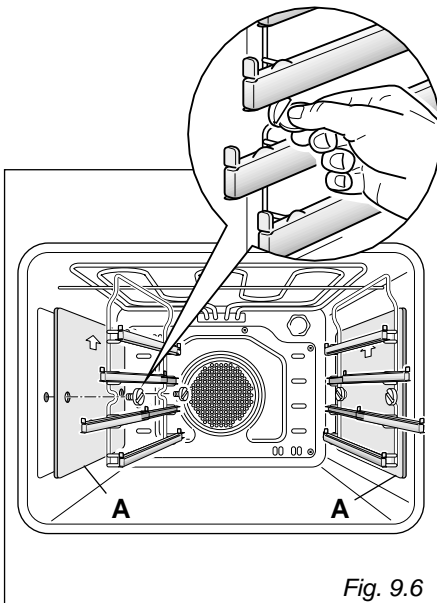

Fig. 9.6
- Assemble the sliding shelves on the oven walls using the 2 screws (fig. 9.6).
- In the models with catalytic panels interpose the catalytic panels "A" with the arrow up (fig. 9.6).
- Unscrewing the fixing screws and slide off the sliding shelves and the catalytic liners (if supplied) to the oven wall as in fig. 9.6.